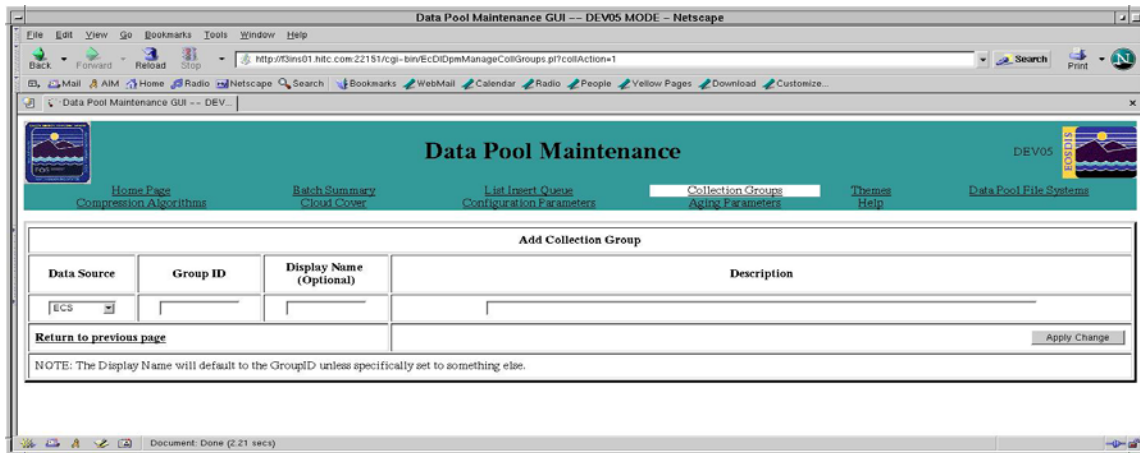

Figure 14.10-18. Add Collection Group Page
From time to time, it may be necessary to add or modify a collection group (e.g., if a DAAC begins archiving data from a new instrument). If a collection group is to be added to the list of collection groups, it is necessary to use the **Add Collection Group** link at the bottom of the Collection Groups page. Full-capability operators (only) can use the procedure that follows to add a collection group (see Figure 14.10-18):
- The **Add Collection Group** page is displayed (see Figure 14.10-18) providing a page with three columns of text-entry fields, **Data Source**, **Group ID**, **Display Name**, and **Description**.